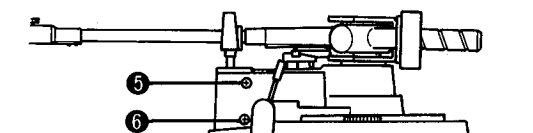

Fig. 6
5. Remove screws 5 and 6 in Fig. 6 and remove the solenoid.